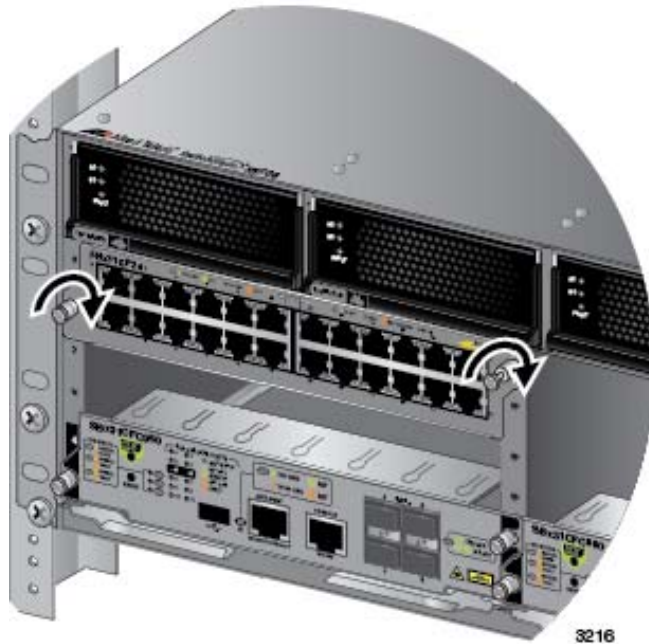

Figure 95. Tightening the Thumb Screws on an Ethernet Line Card
7. Finger tighten the two thumbscrews on each side of the line card to secure it to the chassis, as shown in Figure 95 on page 153.